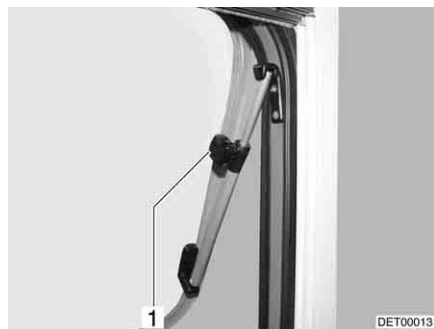

Fig. 104 Skylight with rotary hinges, open
- Open the skylight until the required position has been reached and use knurled knob (Fig. 104,1) to secure in position.
- Turn knurled knob (Fig. 104,1) until the latch is released.